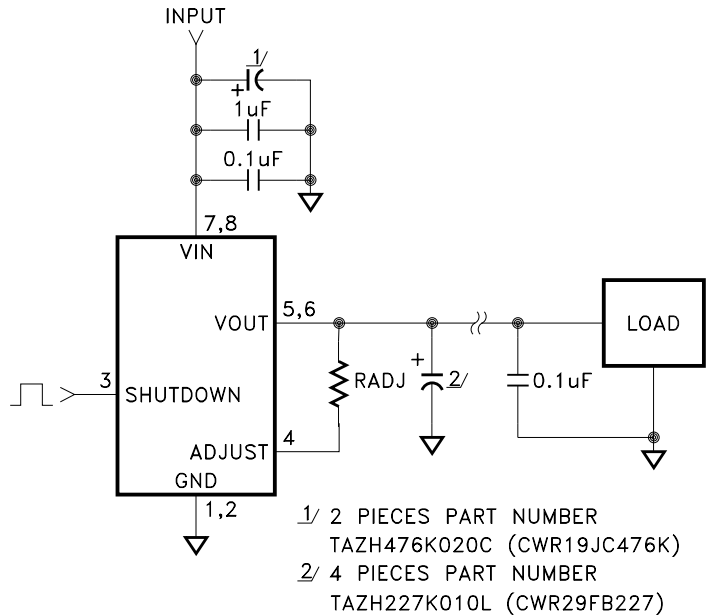

FIGURE 2
- ① Unless otherwise specified, VIN = 3.3V, V_{SHUTDOWN} = 0V and I_{OUT} = 50mA. See figure 2 for typical test circuit.
- ② Guaranteed by design but not tested. Typical parameters are representative of actual device performance but are for reference only.
- ③ Industrial grade devices shall be tested to subgroups 1 and 4 unless otherwise requested.
- ④ Military grade devices ("H" and "K" suffix) shall be 100% tested to subgroups 1, 2, 3 and 4.
- ⑤ Dropout limited by minimum value of VIN.
- ⑥ Subgroup 1, 4 TC = +25°C